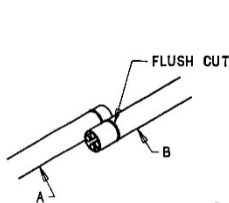

Figure 1
1. Flush cut Multi-Gard sections "A" + "B" as shown in figure 1. Slide outerduct sleeve over Multi-Gard section "B" as shown in figure #2. Insert end spacer into Multi-Gard plain end (chamfer side in) as shown in figure #2. Press couplings onto innerducts of Multi-Gard section "B" as shown in figure #3.